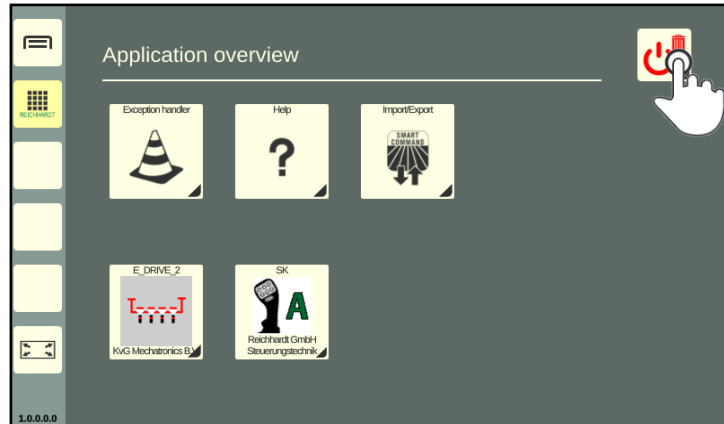

Fig. 78: Tapping the Delete/Exit button
2. Tap the Delete/Exit button (see Fig. 78).